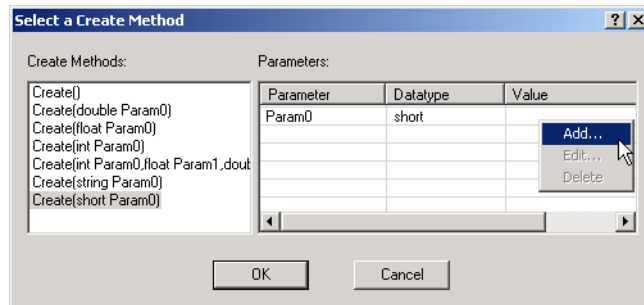

Figure 37-4. Right-click under the value column to assign a value to a parameter.
- ① In the Objects window, click on the EJB and the method you want to use. Once you have selected the method you want to use, click the **Create Method** button. The Select A Create Method dialog appears.
- ② Click on the **Create() Method** you want to use. The **Parameter** and **Datatype** column is populated.
- ③ Right-click on the Value column and select **Add** from the drop-down menu (see Figure 37-4, below).